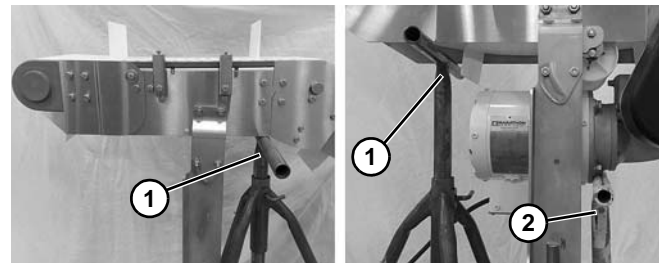

Figure 8
1. Place temporary support stands (Figure 8, item 1) at both ends of the conveyor. Place an additional support stand (Figure 8, item 2) under the drive motor, if equipped. See WARNING.